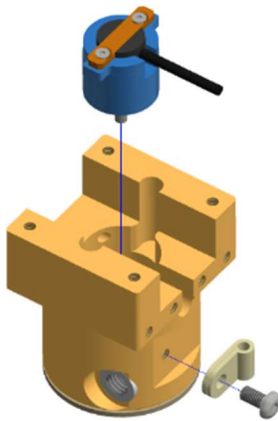

Figure 10-34. Ankle Z-Axis Potentiometer and Strain Relief
10.2.30 Remove the strain relief from the Upper Ankle Adaptor (474-5820-1,2) by removing a M4 X 0.7 X 8 LG. BHCS and slide the Z-Axis Potentiometer from the Adaptor (Figure 10-34).